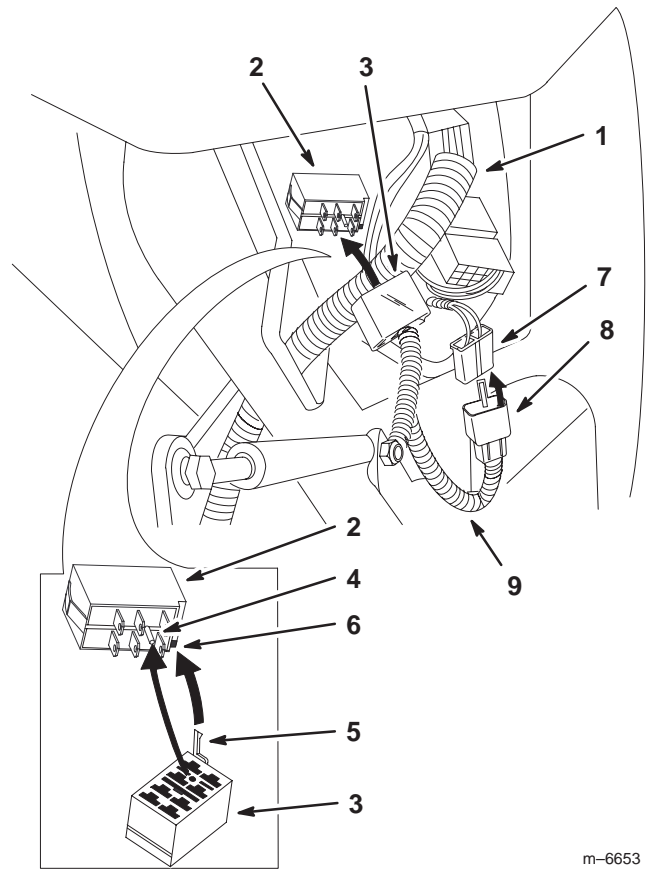

Figure 8
- Line up the light wire harness connector with the light switch (Fig. 8).
Important Make sure the round post on switch lines up with hole in harness connector (Fig. 8).
Important Make sure the extended tab lines up with the square hole in the switch (Fig. 8).
- Install the light switch connector to the light switch (Fig. 8).
- Install the power terminal from the main harness into the light power connector in the light harness (Fig. 8).